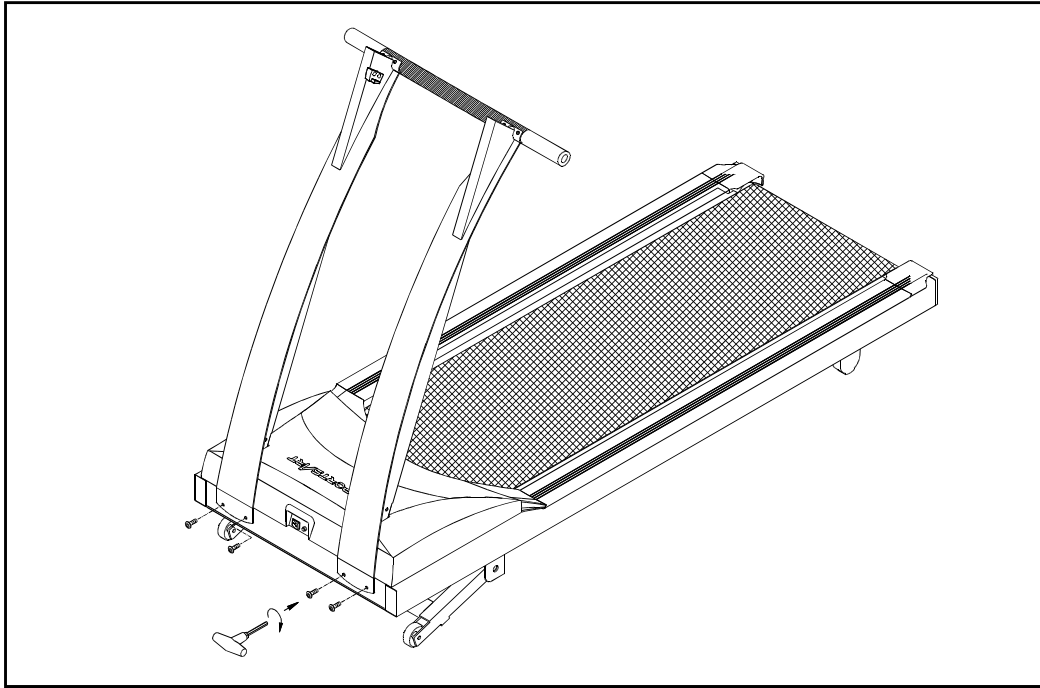

Fig.3
5. Using two screws provided on each post. Do not tighten yet. (see Fig. 3)